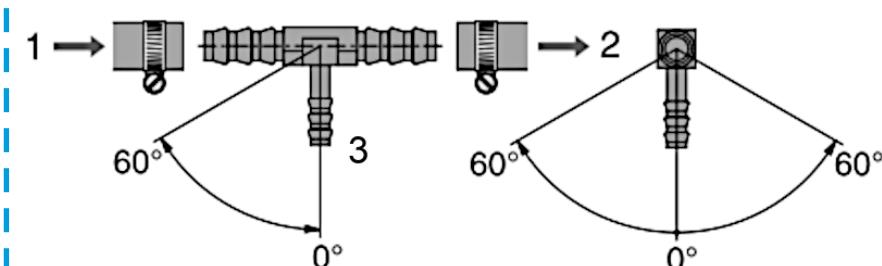

Fig. 36
- Cut/divide the fuel pipe of the vehicle and install the T-piece with its thicker openings between the two ends Fig. 36 (1) (2) of the pipe.
- After this connect the fuel pipe of the heater with the help of a rubber sleeve with the thin end Fig. 36 (3) of the T-piece.